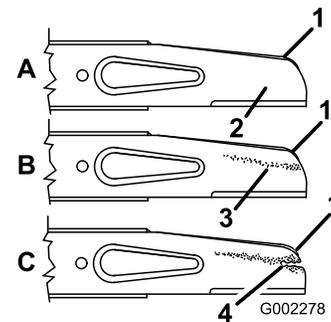

Figure 21
2. Remove the blade bolt, the lock washer, the accelerator, and the blade (Figure 21).